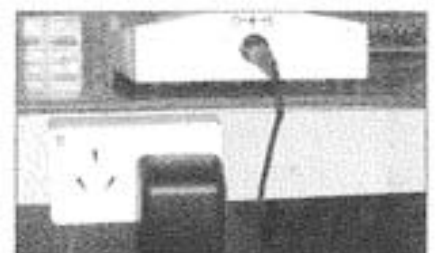

Figure 5
- 2.3 Connect the other end of the cable to the charging jack on the microscope base (as referred to Fig.5)